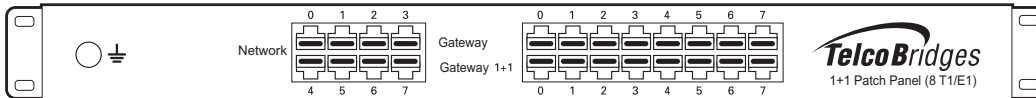

Figure 1.1 Equipment Front and Rear Views
The TSBC5000 series standalone consists of one TSBC5000 session border controller. The front and rear views are shown in figure 1.1 on page 2.
The TSBC5000 series 1+1 system, see figure 1.1 on page 2, consists of:
TSBC5000-680 or TSBC5000-2700. See figure 1.1 on page 2.
- One TSBC5000+1 series unit. See figure 1.1 on page 2.